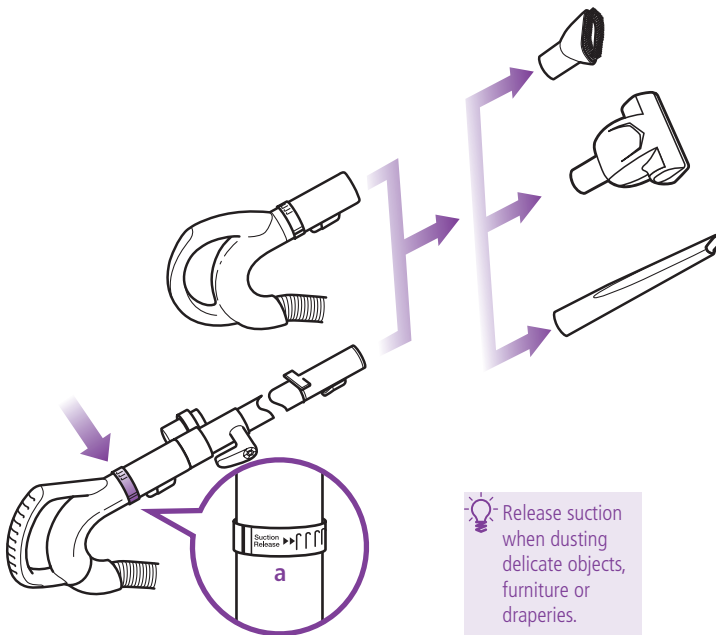

Fig. 16
- 2 Attach desired accessory onto the end of either the extension wand or the handle. (Fig. 16)
- 3 **Your vacuum has tremendous suction power. Adjust the amount of suction with the suction release on the handle. Open the valve (a) by rotating the collar 90° counterclockwise for low suction when doing light jobs such as drapes or fine surfaces. Close the valve (a) by rotating the collar clockwise 90° for high suction and when using the hand held power brush. (Fig. 16-a)**